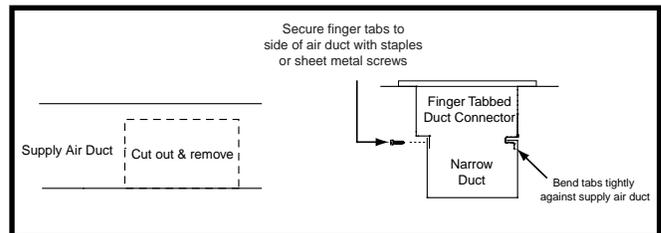

Figure 13. Narrow Ducts - Option 2
- Cut and remove the top of the supply air duct as shown in Figure 13.
- Bend the tabs on the bottom of the duct connector upwards and as tight as possible against the supply air duct (Figure 13).